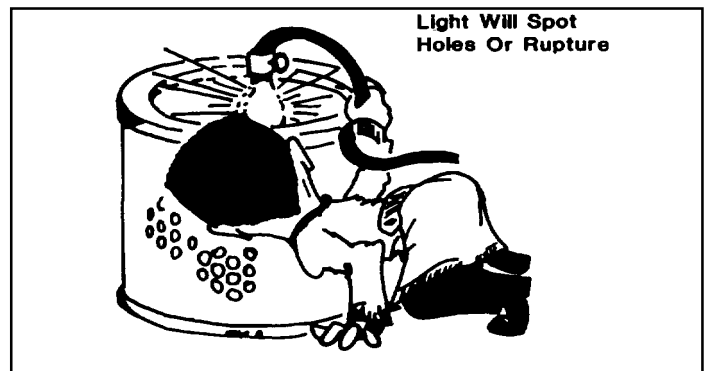

Fig. 3
- (c) After cleaning the filter element, inspect for damage (Fig. 3). Look for dust on the clean air side, the slightest rupture, or damage gaskets. A good way to detect ruptures in the element is to place a lighted light bulb inside the element and look toward the light from the outside. Any hole in the element, even a tiny one, will pass dirt to the engine and cause unnecessary wear.
- (1) Air cleaner mounting bands (loose, missing nuts and bolt, breaks).
- (2) Welded joints and seams on air cleaner body and inlet and outlet tubes.
- (3) Connections between air cleaner and engine.
- (4) Restriction tap plug, (loose or missing).
- (5) Dust cup or end cover, (holes, dents, sealing edge damaged).
- (6) Dust cup retaining clamp, (broken, threads stripped).
- (7) Dust cup gasket (if used) damaged.
- (8) Gasket washer on element wing nut or bolt, (missing, worn, or installed backwards).
- (9) Gasket on main element, (damaged).